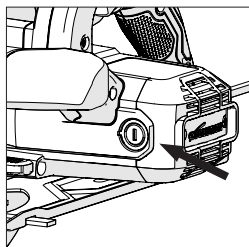

Fig. 18
- Unscrew the plastic caps found at the back of the motor housing. **(Fig. 18)** Be careful as the caps are spring-loaded.